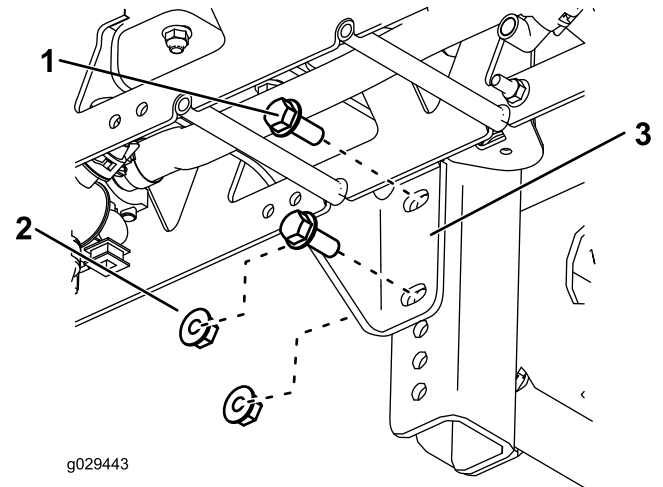

Figure 8
5. Mark the holes where the mounting brackets are attached to the machine (Figure 8).
6. Remove the 2 nuts and 2 bolts from both mounting brackets and remove the boom assembly from the machine (Figure 8).